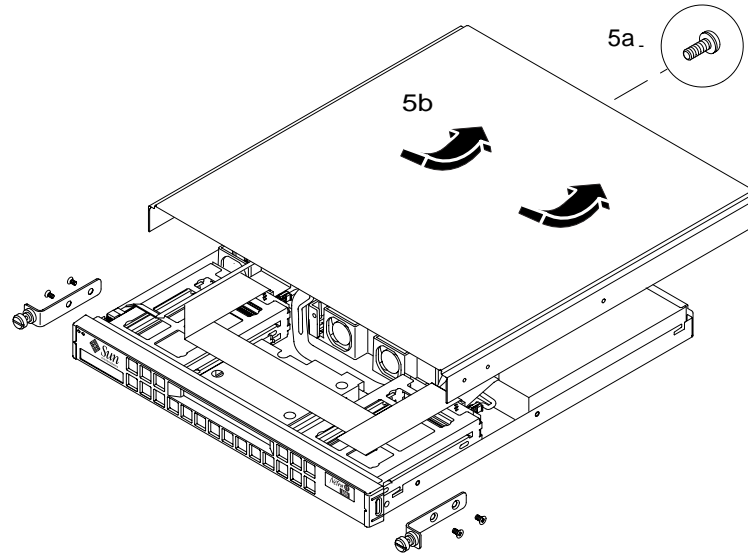

FIGURE 4 Removing the Top Cover of the Netra t1 System
5. Remove the system's top cover (see FIGURE 4). To do this: